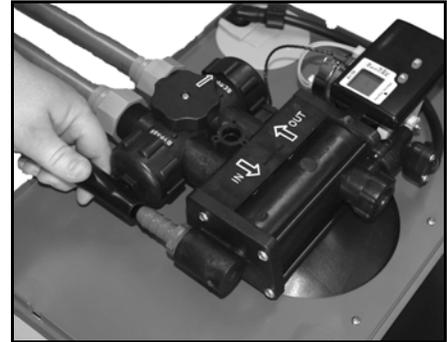

Figure 5: Connect Drain Line
- A. Connect the drain line to the drain end cap (See Figure 5) with a minimum 5/8-inch I.D. tubing (supplied). The size cannot be reduced.
2. Screw the drain fitting (See Figure 5) into the drain end cap until fewer than three threads are visible.